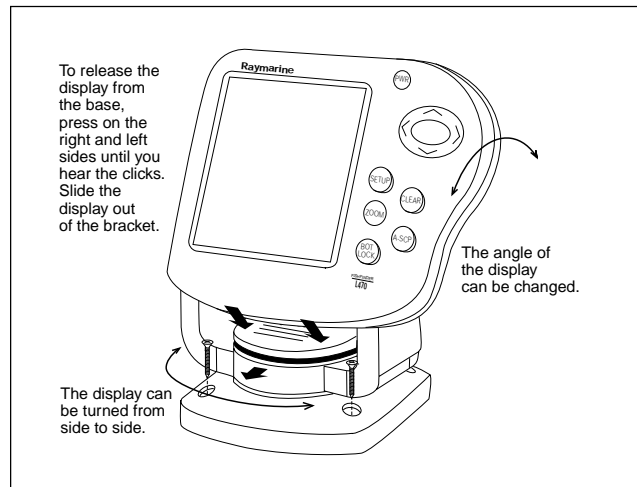

Fig. 2-10
You may mount the display unit on any flat surface using the bracket supplied. See Fig. 2-10. (There is also an optional kit which allows you to flush-mount the display in a flat panel or dashboard). Follow these instructions if you are using the standard mounting bracket:
2. Remove the display unit from the bracket by pressing on the large button in the center of the bracket. See Fig. 2-10.
See Fig. 2-10. To release the display from the bracket, press and hold down the left and right sides. You will hear an audible “click,” and the bracket will slide out.